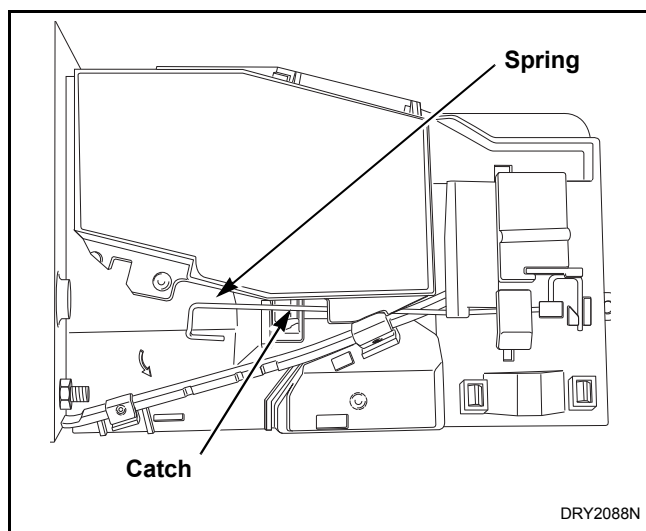

Figure 25
**Coin Drops with Old-Style Spring (refer to Figure 25):**
- Move spring downward until cover catch is free. Refer to Figure 25.